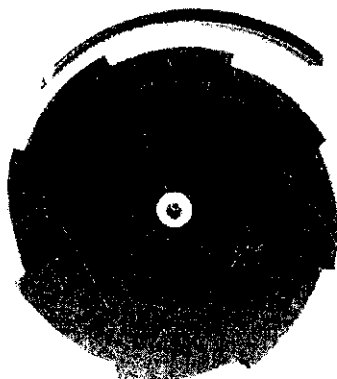

Fig. 13
4. Install the blade ensuring that it is centered correctly on the adapter plate. See Fig. 13